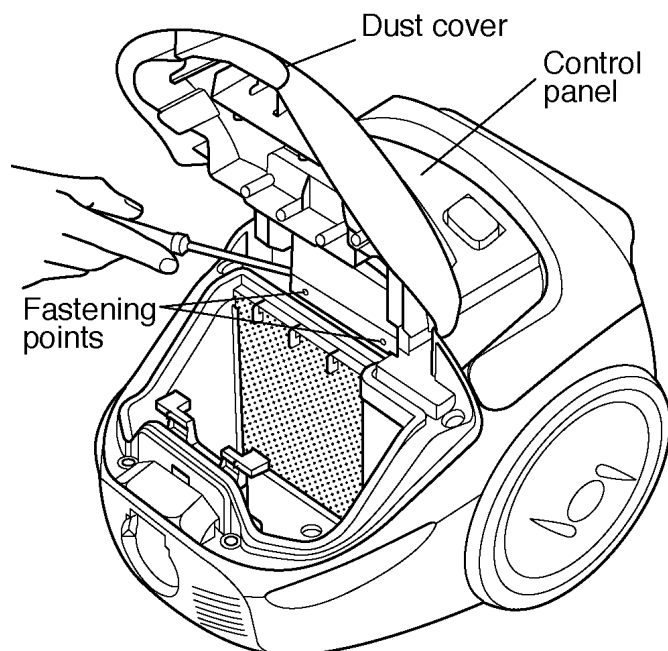

Fig.2
2. Open the dust cover and release (with a flat head screwdriver) the control panel fastening points and remove control panel. (Fig. 2)